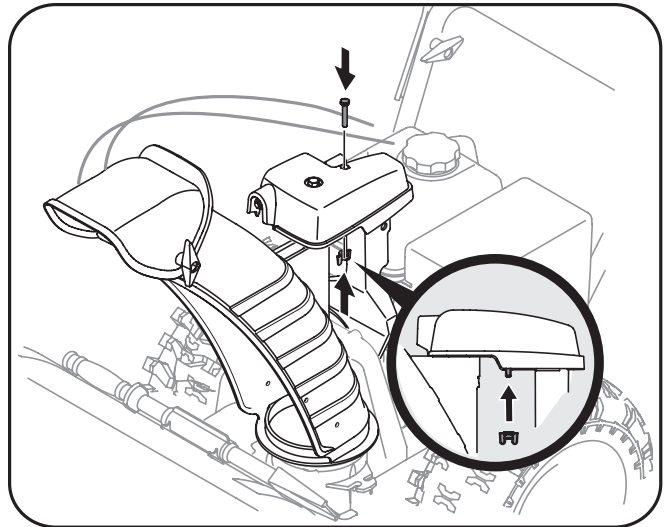

Figure 3-5
- Finish securing chute control assembly to chute support bracket with wing nut and hex screw removed earlier. See Fig. 3-5.